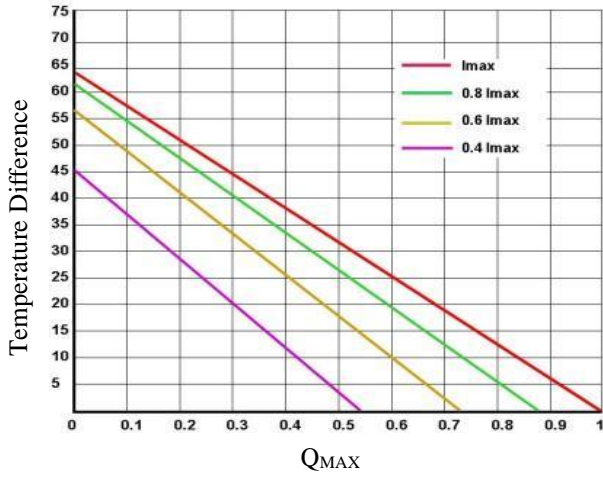
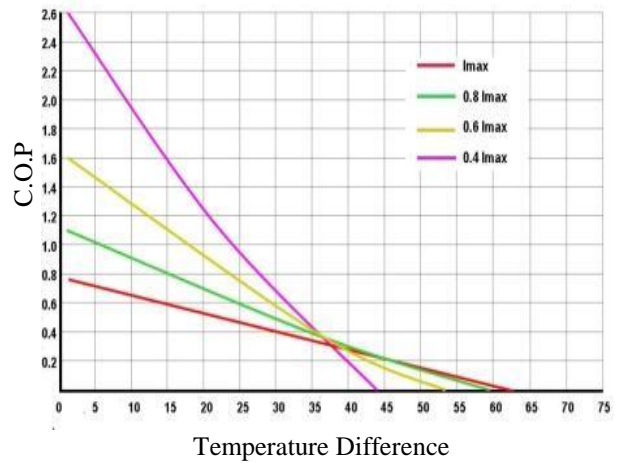

Figure 2. Temperature Difference vs. QMAX
Figure 5. C.O.P vs. Temperature Difference
5. Use the charts provided in Figure 2 to Figure 5, to decide which TEC to use, what is the heat needed to be dumped through the heat sink, what is the heat sink temperature, etc.